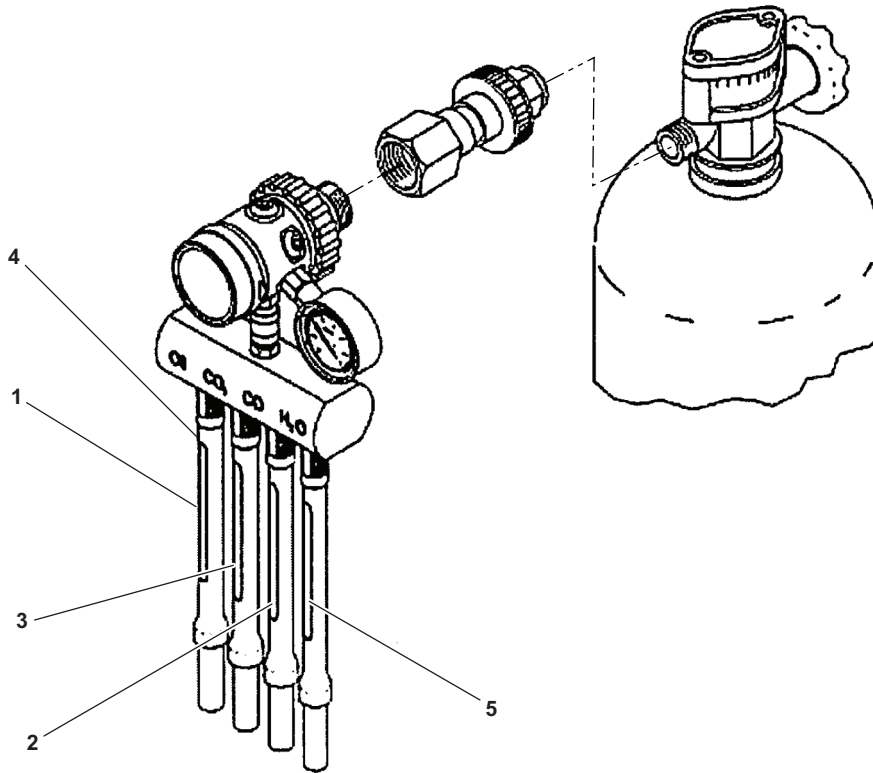
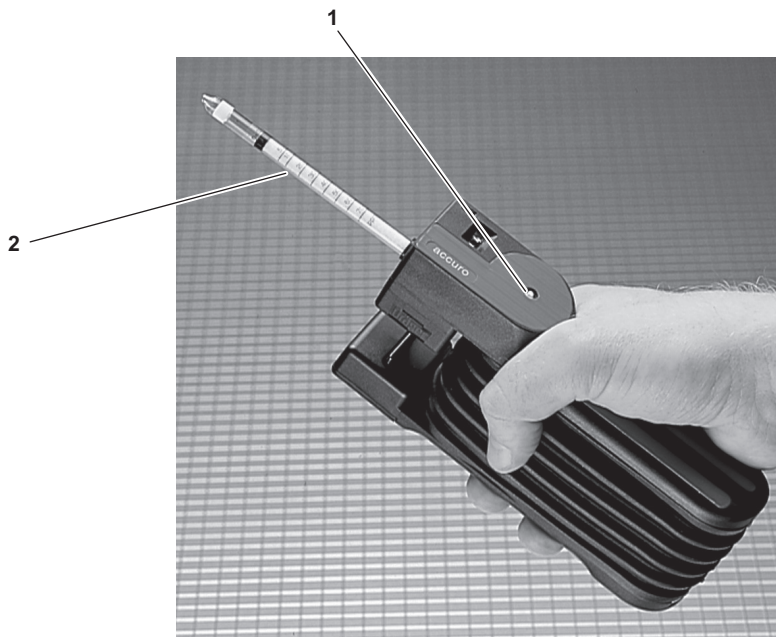

Figure 6-58. Removal of Drager Test Tubes From the Tube Holder
Figure 6-59. Draeger Accuro Pump
- (16) Remove the oil (figure 6-58, item 1), carbon monoxide (CO) (figure 6-58, item 2), and carbon dioxide (CO₂) (figure 6-58, item 3) Drager test tubes from the tube holder (figure 6-58, item 4) after five minutes of exposure. Continue water vapor (figure 6-58, item 5) testing for 10 minutes.
- (18) Bend the oil Drager test tube (figure 6-58, item 1) sharply at the indicated point (between the double dots) on the oil Drager test tube, so that the outer glass tube and the internal reagent ampoule break. Allow the ampoule fluid to flow into the indicating layer of the oil Drager test tube. Use the Drager Accuro pump (figure 6-59, item 1) to apply light suction to the outlet side of the oil Drager test tube (figure 6-59, item 2) until approximately 10 mm (3/8 inch) of the indicating layer is covered with the ampoule fluid.
- (20) After 10 minutes on the electronic timer, remove the water vapor Drager test tube (figure 6-58, item 5) from the tube holder (figure 6-58, item 4) and read and record the measurement. A color change to reddish brown is an indication of moisture. Read the level of moisture on the 10-minute scale of the water vapor Drager test tube. The acceptance criteria for water vapor is less than or equal to 20 mg/ m³. Refer to table 6-2.